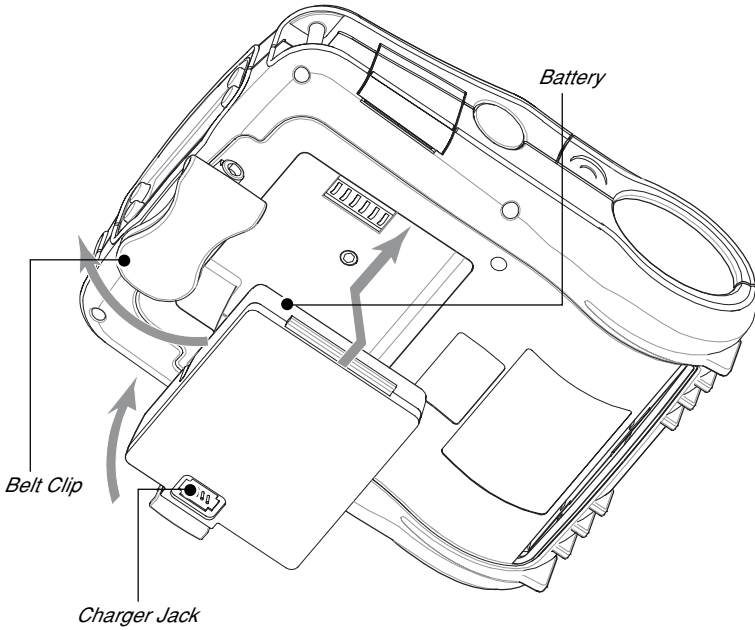

FIGURE 2: INSTALLING THE BATTERY
2. Insert the battery into the printer as shown in Figure 2,